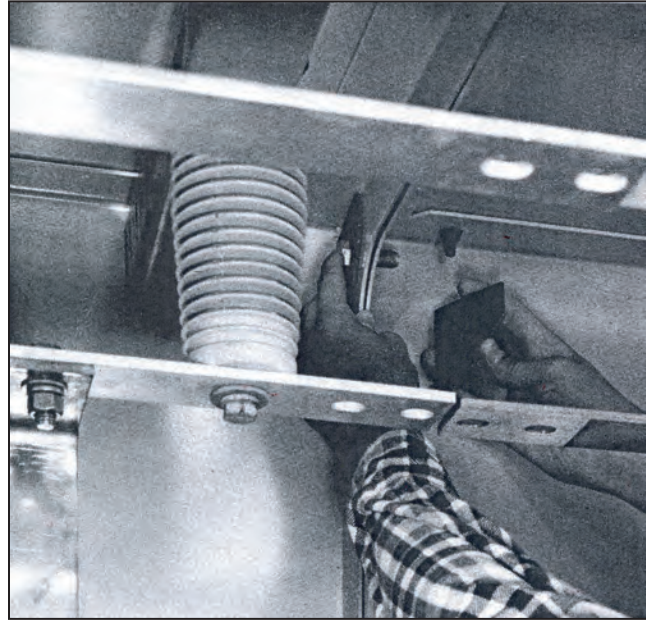
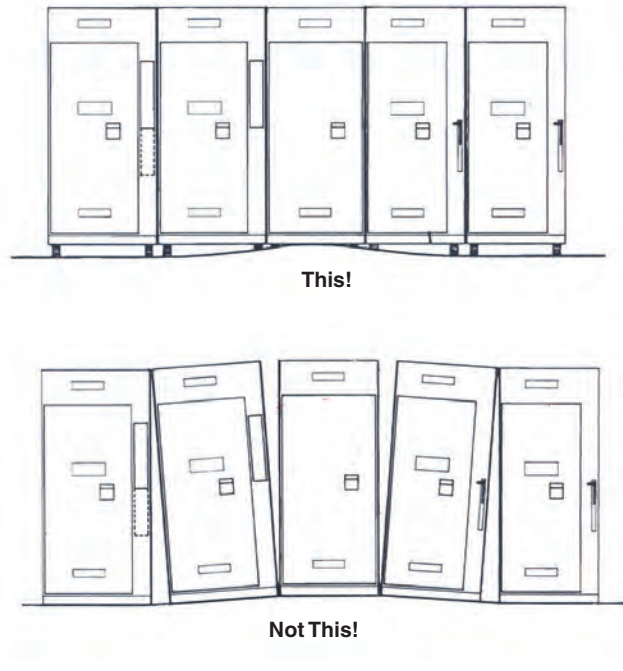

Figure 5. Joining units together.
Figure 6. Alignment of multi-bay switchgear assemblies.
**On multi-bay assemblies shipped in individual units:** Align, level, anchor, check door operation, grout, and caulk succeeding units in turn, and join units with the ½—13-inch galvanized bolts provided. See Figure 5. The bolts may be easily pressed through the gasket tape. Do not attempt to draw misaligned units together with these bolts. See Figure 6.